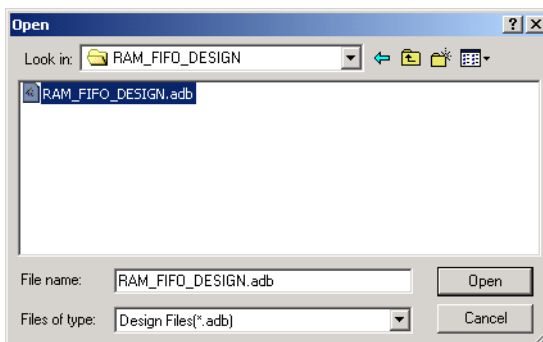

Figure 2-3. Open Design Dialog Box
1. **Click the *Open Existing Design* button or in the File menu, click *Open*.** This displays the Open dialog box (Figure 2-3).